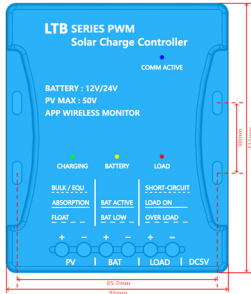

Figure 1
1. The installation holes and dimensions of the controller are shown in Figure 1.